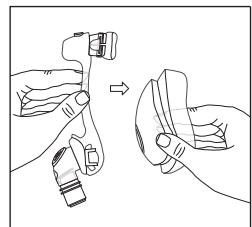

Figure 8
3. **Mask Cushion** - Grasp and pull it off the mask frame (Figure 8).